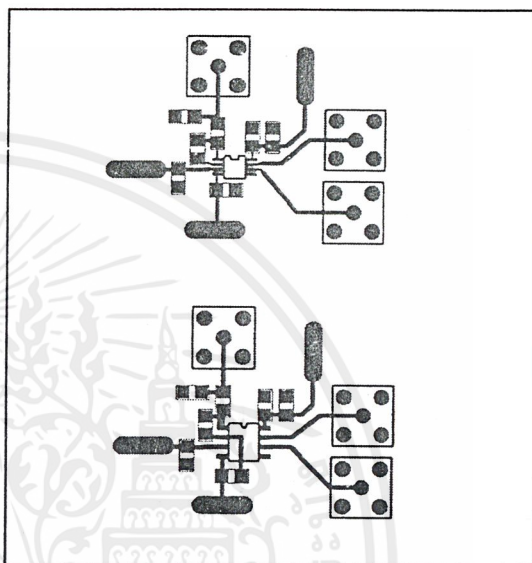

Figure 5. MAX961 PC Layout
- 5) Figure 5 depicts the recommended circuit layout.